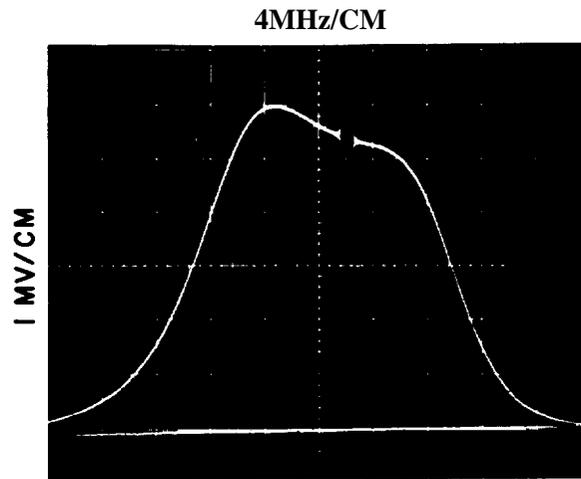

Figure 4-19. Typical Response, 500-475 MHz Interstage Response
- (13) As a check on correct tuning, introduce "finger" capacitance to stage C1D. The response should "rock" on the marker thereby indicating proper tuning.
- (14) Tune down the frequency about 25 MHz, tracking with the sweep generator. Observe the symmetry and shifting of the response relative to the marker. Introduce "finger" capacitance to C1C and C1D noting in each case if the response is improved or not.
- (15) Adjust the rotors of C1C and C1D for the required change in capacitance determined in step (14).
- (16) Reset the tuner shaft fully clockwise and readjust C38, C39, C53 and C54 to compensate for C1C and C1D adjustments. Refer to Figure 4-19 for the typical response.
- (17) Repeat steps (14) through (16) until the interaction is minimized, and the response appears as shown in Figure 4-19 for the top 25 MHz of the band.
- (18) After adjusting the top 25 MHz of the band, continue with the next 25 MHz, adjusting the second section of C1C and C1D rotor plates.
- (19) Continue adjusting the rotor plates down the band always checking to ensure that previously aligned plates remain tuned. Refer to Figure 4-19 when performing these adjustments. After ensuring correct alignment, proceed to the next step to measure the gain through the RF stage and interstage. Perform steps (20) through (23) at both band edges and at mid-band.
- (20) Establish a convenient reference on the oscilloscope by varying the attenuator on the sweep generator. Note the attenuator setting.
- (21) Connect the sweep generator RF output to the 50 ohm detector RF input.
- (22) Increase the sweep generator output level until the reference set in step (20) is regained. Note the attenuator setting on the sweep generator. The difference between this reading and the one noted in step (20) is the gain. At the